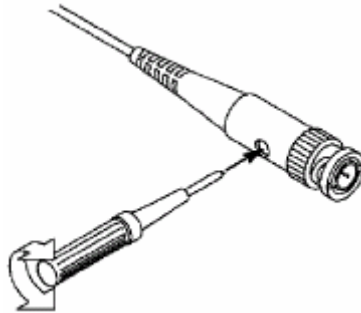

Figure 0-7 Adjust Probe
2. Check the displayed waveforms and regulate the probe till a correct compensation is achieved (see *Figure 0-6* and *Figure 0-7*).